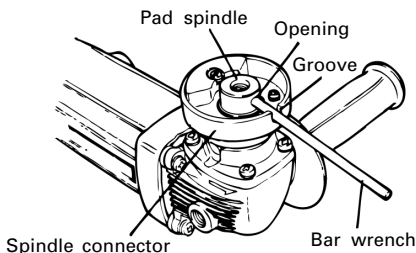

Fig. 4
1. Insert the accessory bar wrench into the groove of the spindle connector and the opening of the pad spindle, as shown in Fig. 4.